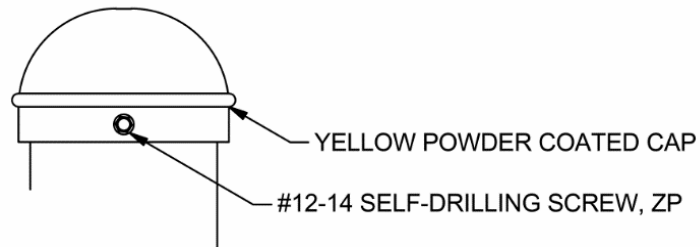

FIGURE: 6
1. Install the cap on top of foul pole with #12-14 self-drilling screw (figure 6).